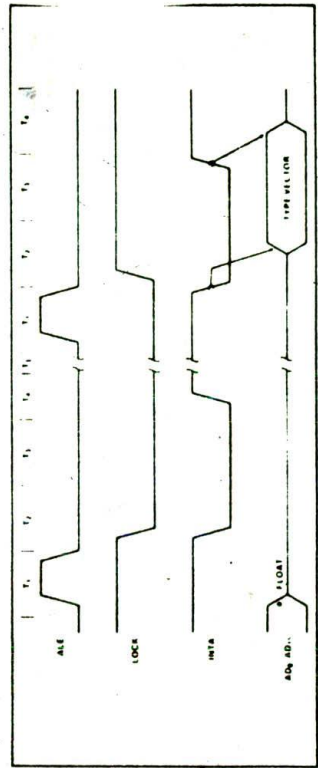

Figure 6. Interrupt Acknowledge Sequence
During the response sequence (figure 6) the processor executes two successive (back-to-back) interrupt acknowledge cycles. The 8086 emits the LOCK signal from T_2 of the first bus cycle until T_2 of the second. A local bus "hold" request will not be honored until the end of the second bus cycle in the second bus cycle a byte is latched from the external interrupt system (e.g., 8259A PIC) which identifies the source (type) of the interrupt. This byte is multiplied by four and used as a pointer into the interrupt vector table. An INTR signal level HIGH will be continually responded to within the limitations of the enable bit and sample period. The INTERRUPT RETURN instruction includes a FLAGS pop which returns the status of the original interrupt enable bit when it restores the FLAGS.
read (RD) signal and the address bus is floated. (See Figure 6) In the second of two successive INTA cycles, a byte of information is read from bus lines D_7 - D_0 , as supplied by the interrupt system logic (i.e., 8259A Priority Interrupt Controller). This byte identifies the source (type) of the interrupt. It is multiplied by four and used as a pointer into an interrupt vector lookup table, as described earlier.